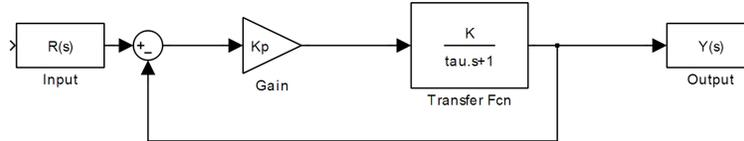

Figure 1: Speed Control
Using proportional error feedback with gain  $K_p$  for the open loop system (1) (see Figure 1) results in the closed loop transfer function: